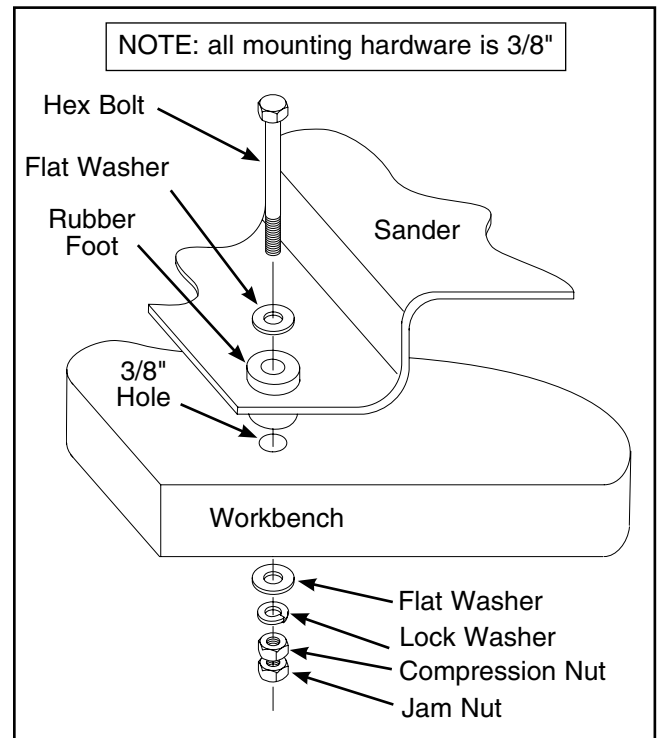

Figure 24. Sander mounting layout.
- 4.** Install all mounting hardware in the order as shown in **Figure 24**, and tighten the compression nuts just until the rubber feet start to swell slightly.